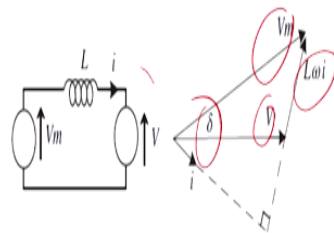

Fig.2: Equivalent single-phase circuit of the grid connection side and vector diagram.
- By neglecting the filter losses the single-phase equivalent circuit of the grid connection side is obtained as given in Fig.2.
Now by neglecting the filter losses, the single-phase equivalent circuit of the grid connection side can be obtained as shown in Figure 2, this is the figure 2. So, you got VSI that has been shown here as  $V_m$ , there is inductor, you have a current and this is the grid and this is  $V_m$ , this is  $L \times \omega \times i$ , and this is  $V$ , and this is the angle  $\delta$  in between. So neglecting the filter losses in the single-phase equivalent circuit of the grid connections side is obtained as shown in the figure 2.